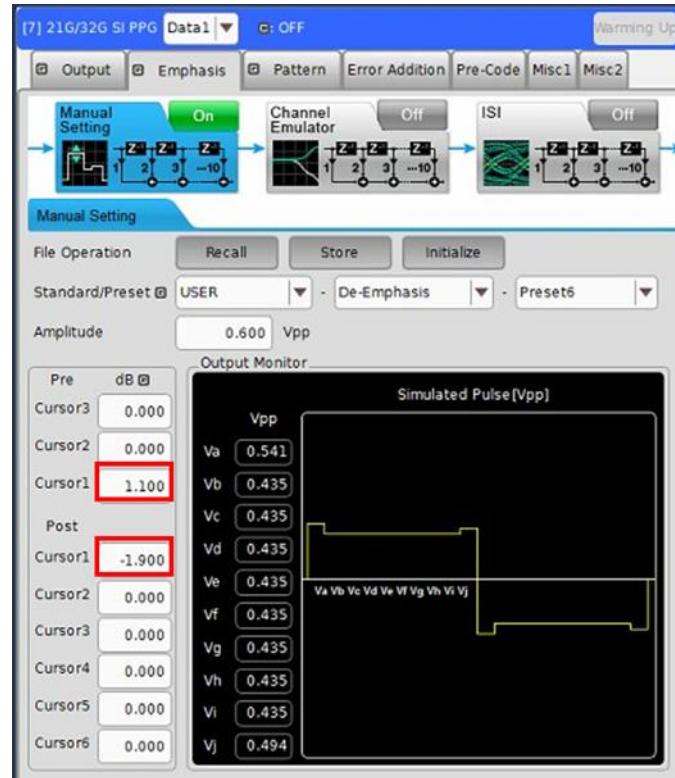

FIGURE 62. DEEMPHASIS CONFIGURATION (1)
Deemphasis Configuration (1)	Preshoot Enabled, Deemphasis Enabled. See Figure 62.